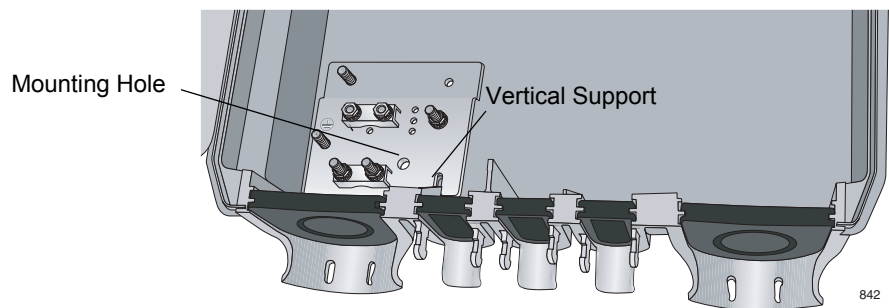

Figure 6. Aligning the Grounding Plate
3. Align the notch in the grounding plate with the vertical support, and the hole in the grounding plate with the hole in the back of the enclosure, as shown in Figure 6.